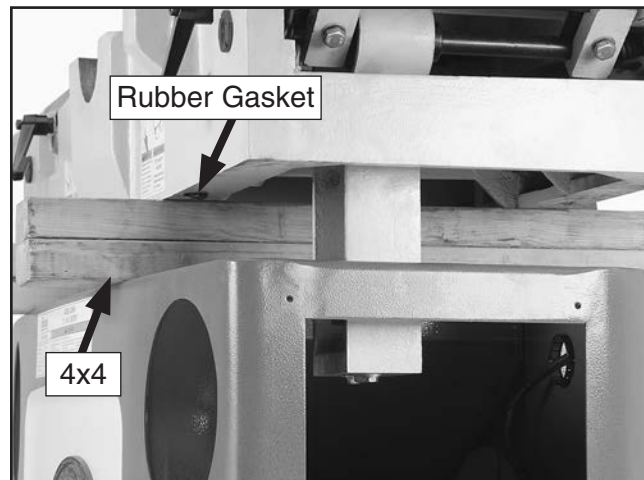

Figure 7. 4x4 placed between cabinet and bed on infeed side of jointer.
15. While two assistants lift the infeed table, place a 24" long 4x4 board (or two 2x4s nailed together) between the cabinet and bed, as shown in **Figure 7**.
Note: Be careful not to knock off the rubber gaskets (**Figure 7**) located on the bottom of the base. If you accidentally knock the gaskets loose, place them in a safe location for later reinstallation.